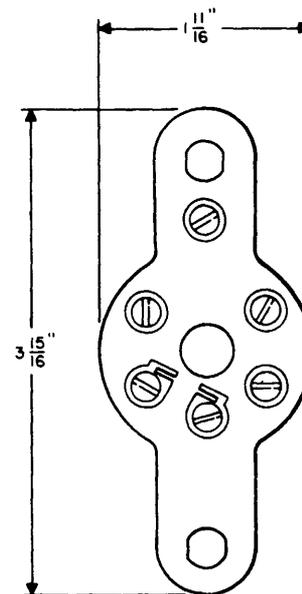

Figure 20. Model 1105 Connecting Block.
4.09 The Dracon Industries Model 1105 connecting block (Figure 20) is for terminating station wire and line cord within walls or electrical conduit boxes when prewiring. The block has five screw terminals and provisions for wing-band or ring-band strain relief. The number 19C or split outlet plate may be used with the 1105 block.